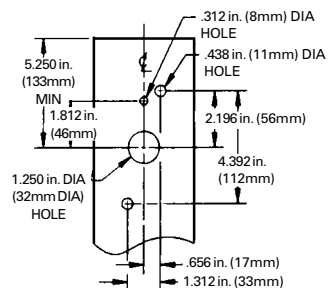

Figure 2
**USE WITH SQUARE POLES PRE-DRILLED PER FIGURE 2:**